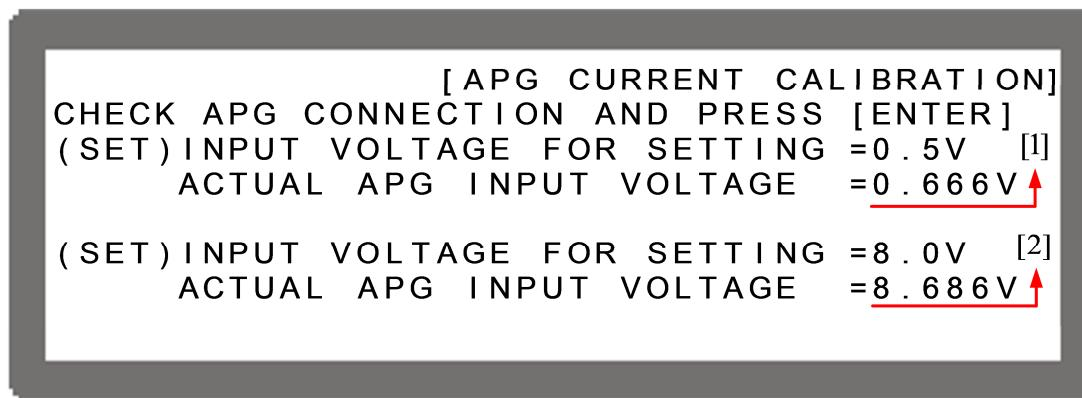

Figure 3-124
4. Input a 0.5V voltage signal on (Pin 4). The cursor stops at position [1] as shown in Figure 3-124. Adjust the Power Supply to  $0.5V \pm 0.2V$  and use DVM1 to measure the reading of the Power Supply. Input the voltage (enter 3 digits after the decimal point) read by DVM 1 to position [1] and press " to confirm.
5. Press and input an 8.0V voltage signal on (Pin 4). The cursor stops at position [2] as shown in Figure 3-124. Adjust the Power Supply to  $8V \pm 0.2V$  and use DVM1 to measure the reading of the Power Supply. Input the voltage (enter 3 digits after the decimal point) read by DVM 1 to position [2] and press " to confirm.